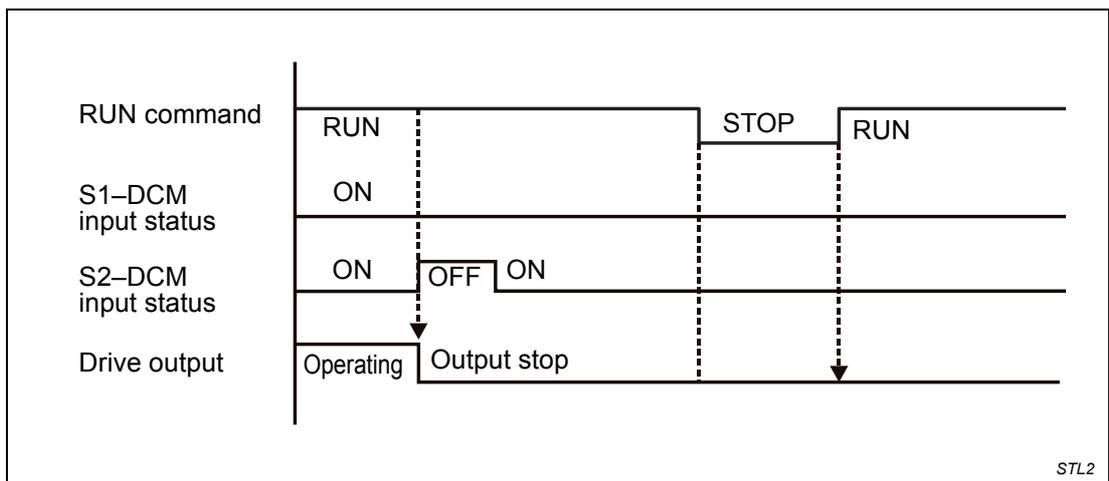

Fig. 12-9: Signal course when enabling STL2
As shown in fig. 12-9, when S1-DCM is ON during operation (STO function is not required) and S2-DCM is OFF (STO function is required), the drive stops outputting and the keypad shows the STL2 error. However, you cannot reset the STL2 error even if the S2 status is restored (ON) regardless of the parameter setting. You must cycle the power to reset and to restore the drive to the normal standby state.